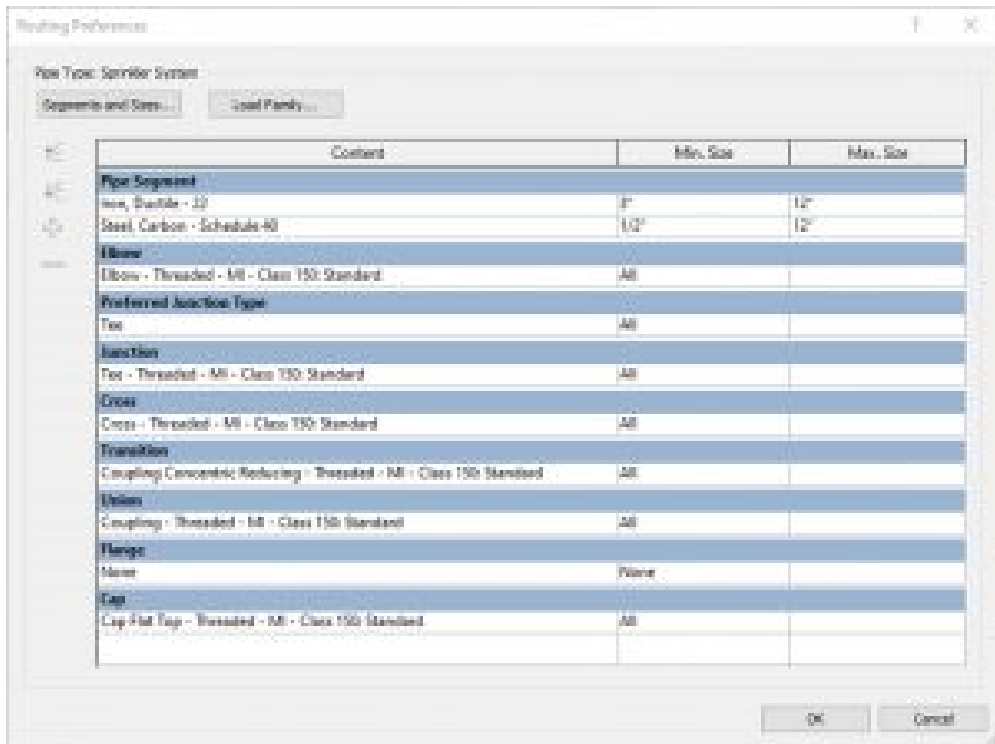

Figure 15.3 Routing Preferences selected content and sizes
6. Place one sprinkler at the center of a ceiling tile nearest the center of the room as shown in Figure 15.3
8. Place a section mark in front of the sprinkler head that was just placed, as shown in Figure 15.3